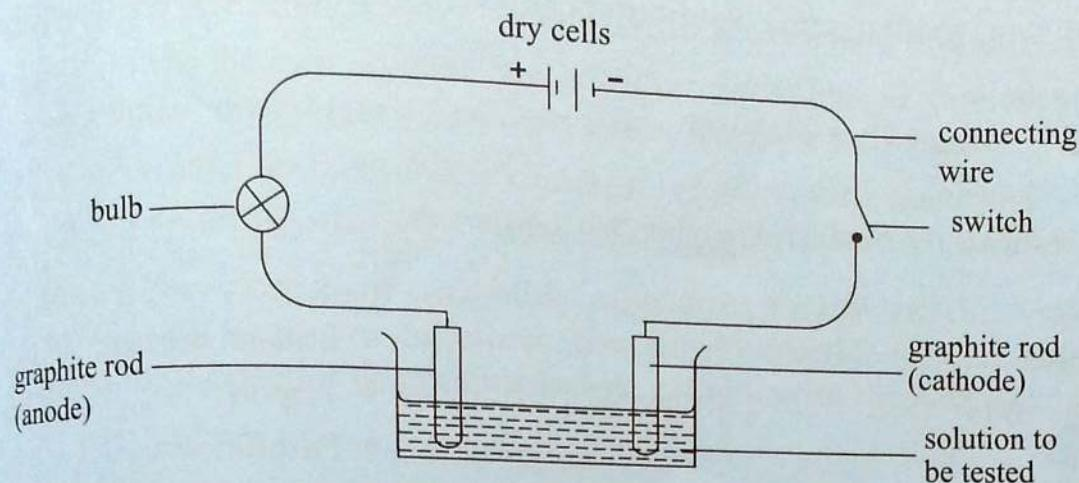

Fig. 4.4: The apparatus for testing conductivity of aqueous solutions
1. Set up the apparatus as shown in Fig. 4.4. Before dipping the graphite rods into the solution, let the two electrodes touch and switch on the current to check whether the bulb lights up.
Different results are achieved from the apparatus in Fig. 4.4 when used to test different solutions. Liquids such as acidified water, sodium chloride solution, mineral acids and copper sulphate solution conduct electric current. They are hence referred to as **electrolytes**. The current decomposes the electrolyte as it passes through it. On the